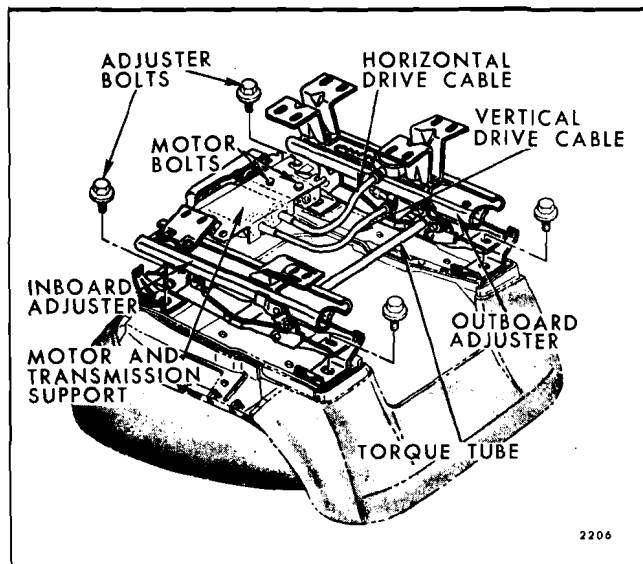

Fig. 15-45—Four-Way Bucket Seat Assembly
3. If outboard adjuster is being removed, disconnect both, horizontal and vertical, drive cables from vertical gearnut and horizontal actuator (Fig. 15-45).
5. Remove adjuster-to-seat bottom frame front and rear attaching bolts securing adjuster to be removed (Fig. 15-45).
(Fig. 15-45 and 15-46) and remove torque tube assembly.